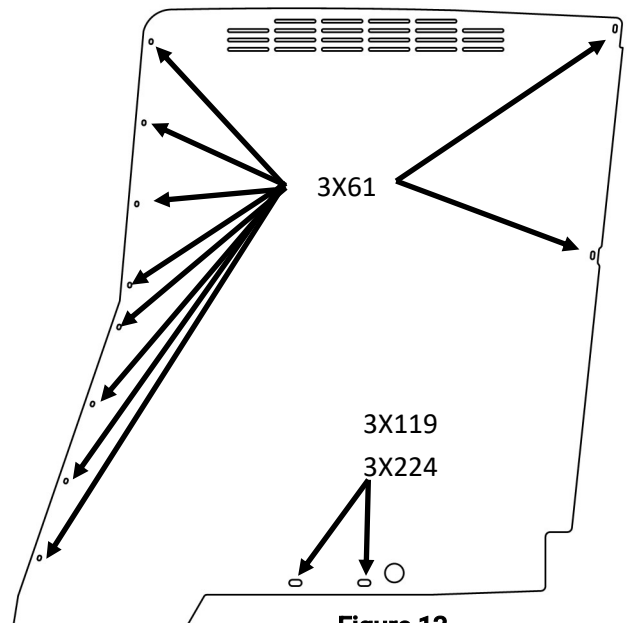

Figure 13
1. Locate (10) 1/4"-20x3/4" carriage bolts [3X61], (10) 1/4"-20 whiz nuts [3X16Z], (2) 3/8" washers [3X224], and (2) 3/8-16X1.5" hex bolts [3X119].
2. Insert the (2) hex bolts [3X119] with the (2) washers [3X224] on them through the Divider, Seat, and into the Lower Seat Bracket. Leave these fasteners loose.
3. Align the Upper Divider Brackets with the corresponding slots on the Divider. The brackets go against the driver side of the Divider. Insert (1) carriage bolt [3X61] into each of the locations from the prisoner side of the Divider and loosely secure with (1) whiz nut [3X614] per carriage bolt.
4. Bring the Divider and the Partition together and align the corresponding holes. Insert (8) carriage bolts [3X61] from top to bottom through the Divider and Partition; the heads of the carriage bolts should be facing the driver side of the vehicle. Secure each fastener with (8) of the whiz nuts [3X16Z]. Figure 13 shows the Divider with the fastener locations called out.